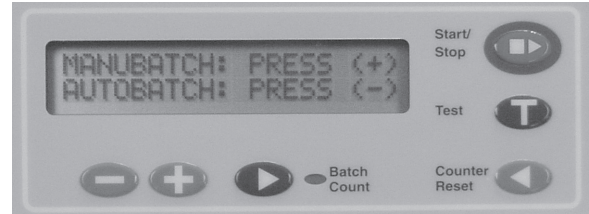

Fig. 8
1. To enter the manual batch counting mode press the “Batch Count” button and select “MANUBATCH” by pressing the “+” button (Fig 8) .
1. To enter the Autobatch mode press the “Batch Count” button and select “AUTOBATCH” by pressing the “-” button (Fig 8).